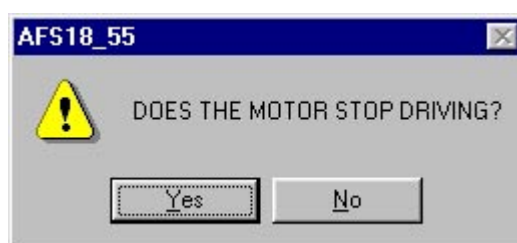

Fig.1
- ⑤ When the above Fig.1 is displayed, if the motor driving stops, select "Yes" to complete the adjustment. In case the motor does not stop driving, select "No " to make adjustments again. In case the motor does not stop driving even after the readjustments, adjust the MR duty again and repeat "ADJUSTMENT FOR DRIVING FREQUENCY & MOTOR CONTROL". If the adjustment is not successful in spite of the above, the SWM unit, fix-tube unit, or MR head unit may be defective.